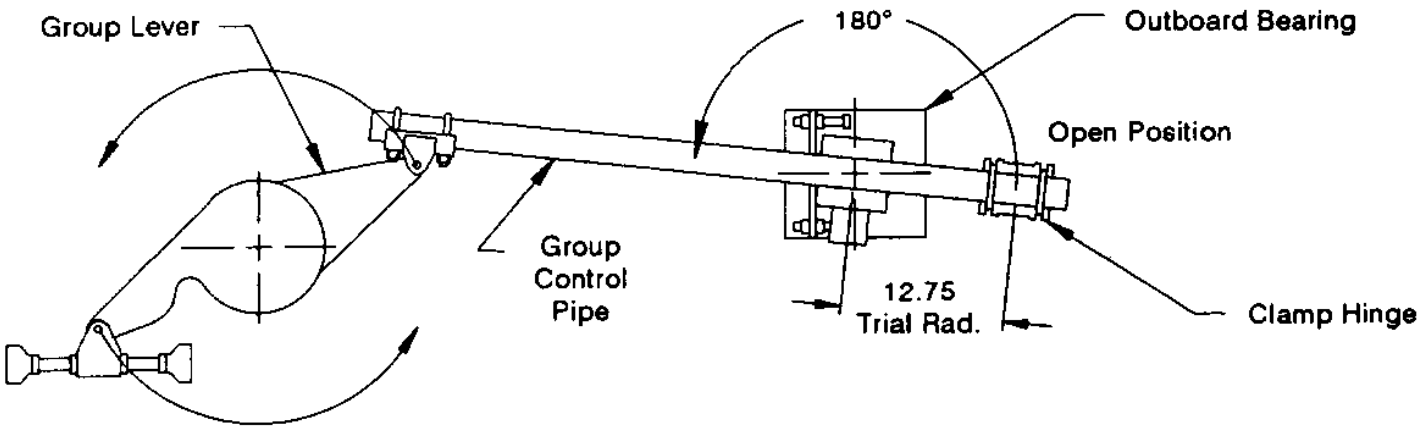

Figure 29 -- Installation of Group Control Pipe
2. Install group control pipe by attaching to group control lever. This clamp hinge has been factory set and pierced. See Figure 29.